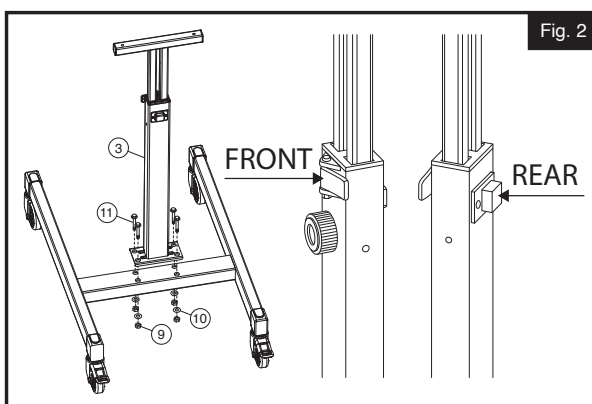

Fig. 2
4. Install the Support Frame (3) onto the base frame as shown, paying attention to the front and rear orientation. The front of the support frame should face towards the longer ends of the base frame legs. Insert four M6 Bolts (11) through the holes and fasten with M6 Washers (10) and M6 Lock Nuts (9) using the two 10 mm Wrenches (14). (Fig. 2)